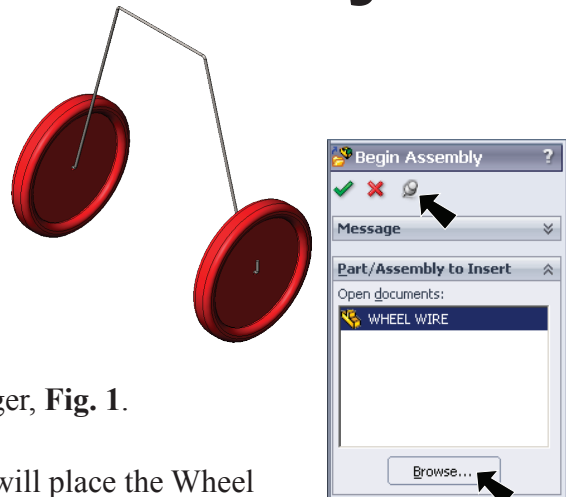

Fig. 1
Step 4. Click **Keep Visible**  in the Property Manager, **Fig. 1**.
Step 6. Click **Browse** in the Property Manager, **Fig. 1**.